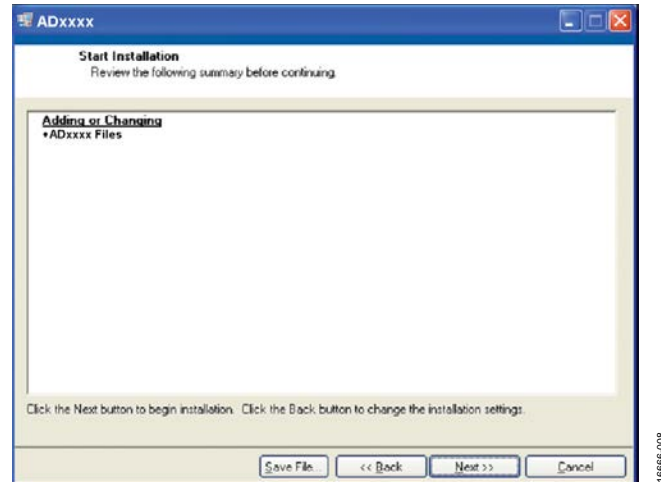

Figure 8. Reviewing a Summary of the Installation
7. A summary of the installation is displayed (see Figure 8). Click **Next** to continue.